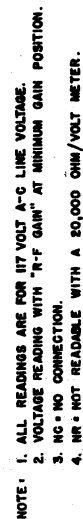

Figure 5-2. Radio Receiver Model S-37, voltage chart.
a. Voltage Chart. - Refer to Fig. 5-2. for the tube socket terminal voltages. Voltages shown are those between the terminal and ground (chassis) unless otherwise specified. To identify the tube socket connections, refer to Fig. 7-6. The readings were taken with an RCA Volt Ohmyst Junior analyzer using 20,000 ohm per volt sensitivity. To prepare the receiver for measurement, disconnect the antenna, connect a jumper between the antenna terminals A₁, A₂, and GND., disconnect the speaker and replace with a 5000-ohm 10-watt resistor across the 5000-ohm output terminals or a 500-ohm 10-watt resistor across the 500-ohm terminals, and set the controls as follows: